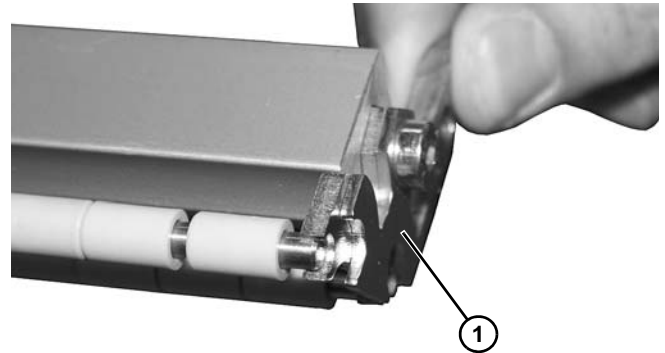

**Figure 103**
5. Remove lower screw (**Figure 103, item 1**) and remove tail nut bar (**Figure 103, item 2**) and side plate (**Figure 103, item 3**).
During reassembly, make certain that the tail nut bar nipple (**Figure 103, item 4**) is inserted into the support bar hole (**Figure 103, item 5**).
8. Assemble and install head plate in reverse order of removal. Use a hex-key wrench to tighten lower screw (**Figure 103, item 1**) to 30 in-lb (3.4 Nm). Leave two fastening screws (**Figure 102, item 2**) loose for belt tensioning.